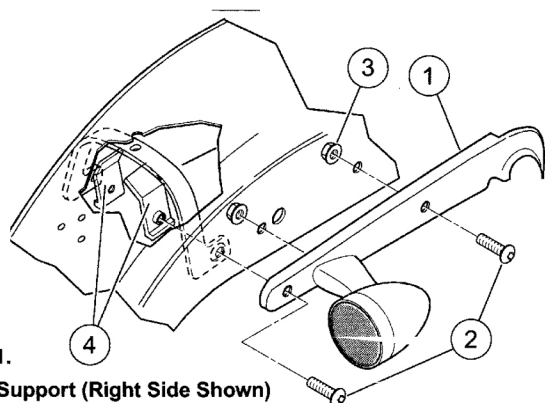

Figure 1.
1. See Figure 1. Remove and discard the front screw (2) and locknut (3) from the rear-fender support cover (1).